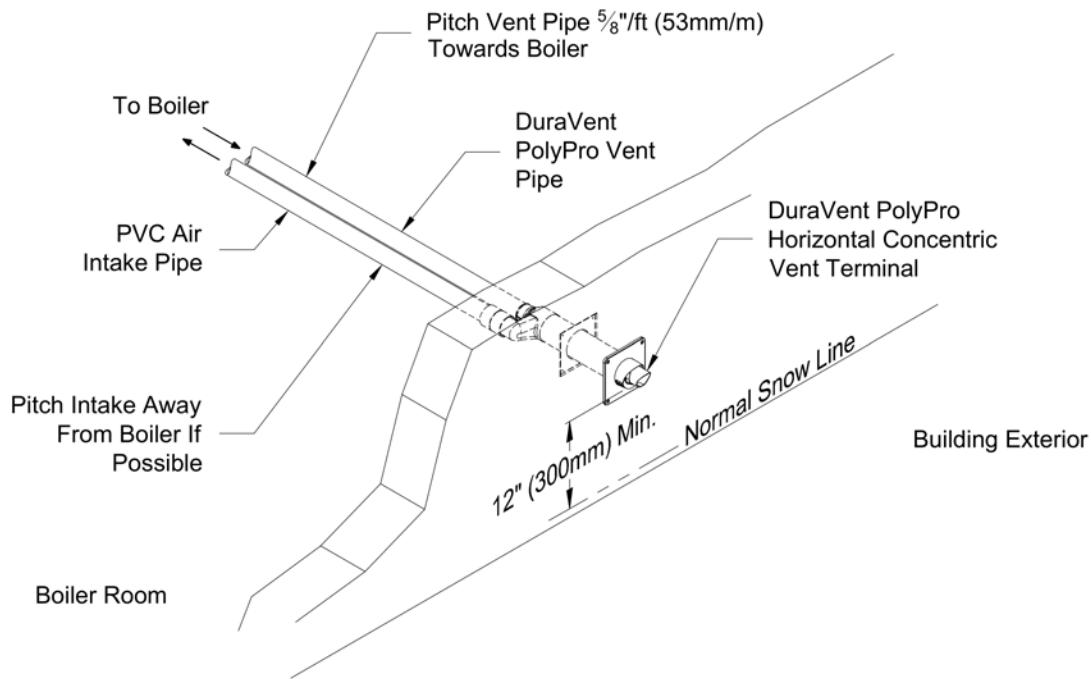

**Figure 7.8: Horizontal CPVC/PVC Venting with Concentric Vent Terminal, (Vent Options #1 & 2, Terminal Options D & E)**
**Terminal Option D: Ipex FGV Concentric Terminal (Acceptable for Vent Options 1,2)** - This terminal is shown in Figure 7.8 and may be used with CPVC/PVC vent systems. This terminal is available in various lengths and in both PVC and CPVC. Terminals acceptable for use with these vent options are as follows:
**Terminal Option E: Diversitech Concentric Terminal (Acceptable for Vent Options 1,2)** - This terminal is shown in Figure 7.8 and may be used with CPVC/PVC vent systems. See Part VII-E of this manual and the Diversitech instructions provided with the terminal, for installation details.